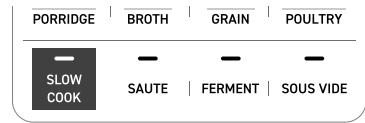

Figure 5.2
3. Select **SLOW COOK** and press the – or + buttons to adjust the time if necessary. [Figure 5.2]